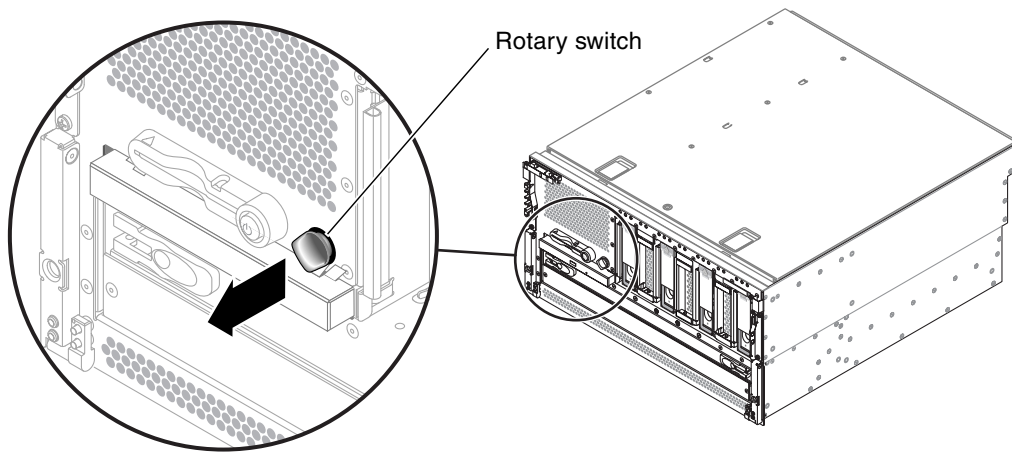

FIGURE 4-7 Removing the Rotary Switch
8. Pull the rotary switch away from the system to remove it from the server (FIGURE 4-7).
10. Push the rotary switch back into place at the front of the server (FIGURE 4-7).